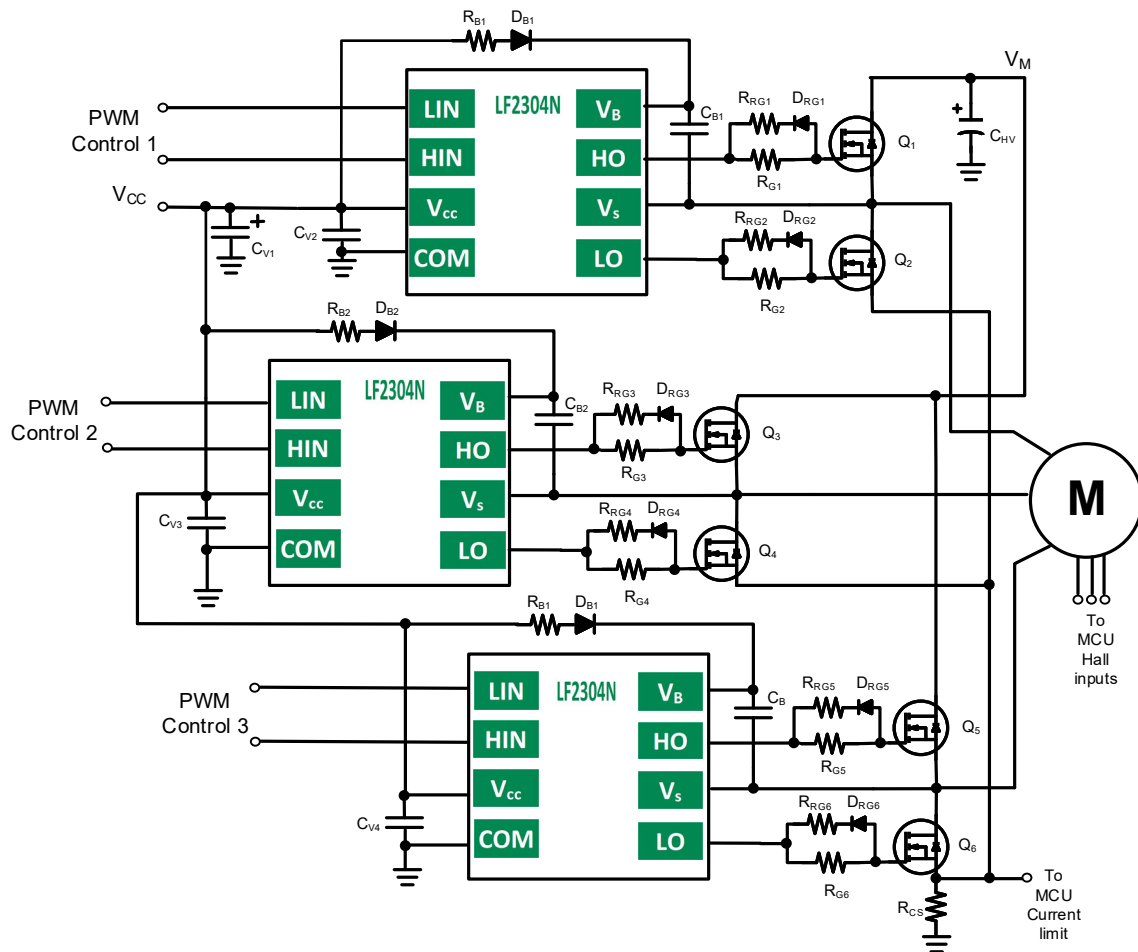
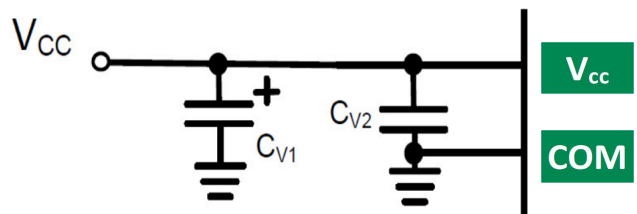

Figure 3. Three phase motor drive application example using the LF2304N
Figure 9. Suggested VCC decoupling
The LF2304N, half-bridge gate driver is used to optimally and efficiently drive the gate of MOSFETs or IGBTs. Below (figure 3) is an example application using the LF2304N with MOSFETs to make three halfbridge circuits used to drive a three phase motor. Typical 3 phase motor applications are AC Induction motors, PMSMs, and BLDC motors; the LF2304N also is typically used for stepper motor applications. LF2304N can also be used in power supplies. In this discussion, the important parameters needed to design in the LF2304N are discussed; main sections are bootstrap resistor, diode, and capacitor selection, gate driver component selection, decoupling capacitor discussion, and PCB layout suggestions.
Considering figure 3, when the low side MOSFET (Q2, Q4, or Q6) turns on, V_s pulls to GND and the bootstrap capacitor (CB1, CB2, and CB3) is charged. When the high side MOSFET (Q1, Q3, and Q5) is turned on, V_s swings above V_{cc} and the charge on the bootstrap capacitor (CB) provides current to drive the IC high side gate driver. The first charge of CB from V_{cc} through the bootstrap resistor (RB1, RB2, and RB3) and bootstrap diode (DB1, DB2, and DB3) occurs when power is first applied and low side turns on the first time. At this time the charge current is the largest as typically CB is not discharged fully at each cycle during normal operation
As shown in fig 9, two decoupling capacitors are recommended C_{V1} and C_{V2} . C_{V1} can be a larger electrolytic, for example 47mF, 50V, used to dampen low frequency drains on supply; C_{V1} does not need to be right next to the IC. But C_{V2} is used to decouple faster edge changes to V_{CC} , and should be a low ESR ceramic capacitor placed close to the V_{CC} pin. This component provides stability when V_{CC} is quickly pulled down with load from the IC; typical values are 0.1mF to 1mF. For applications with multiple gate driver ICs (for example BLDC motor drive with 3 x gate drivers as shown in figure 3), one larger electrolytic (C_{V1}) can be used and the three ceramic caps (C_{V2} , C_{V3} , C_{V4}) should be used close to the VCC pin (see Layout section also).